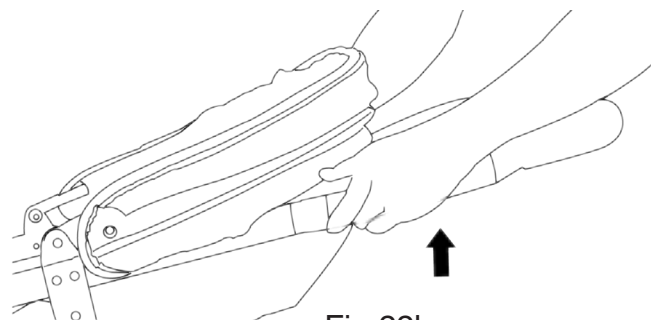

Fig 22b
- Lift up on the stroller handle with both hands until the stroller frame is in a fully opened and locked open position. (Fig. 22b) The stroller is in a fully locked position when both side handle latches are in a fully locked position. Prior to placing your child into the stroller, test to make sure both latches are fully engaged and fully locked.